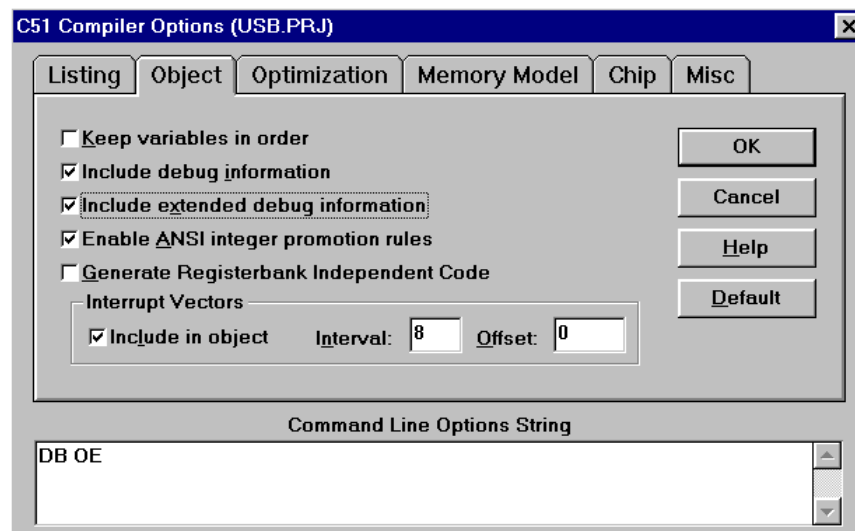

FIGURE 10
- Configure the options in the window under *Object* as shown in Figure 10 and press *OK*. It is important to turn on the *Include debug information*. This will allow us to see the source code in the debug window in the simulator and the monitor.